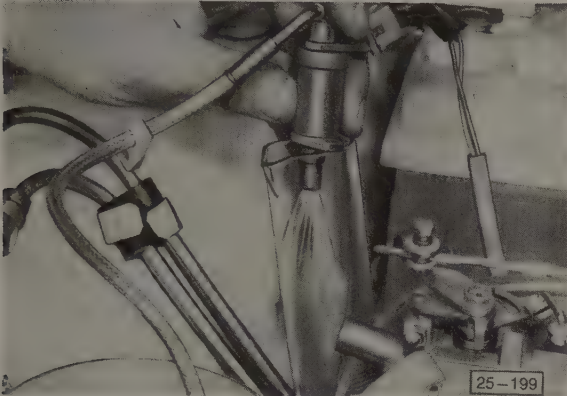

Fig. 5-7. Cold-start valve operation being checked.
4. Wipe dry the nozzle of the cold start valve. Point the valve into a transparent container, and have a helper actuate the starter. See Fig. 5-7.